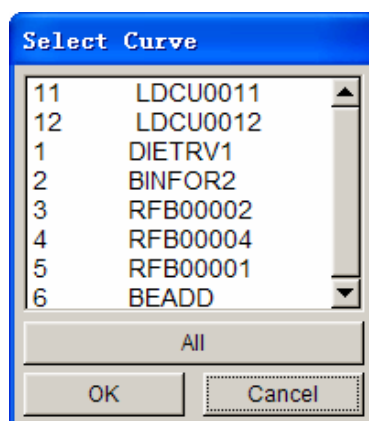

Figure 11.13.3 Select Curve dialog box
- Select a curve listed in the SELECT CURVE dialog box as shown in Figure 11.13.3. The user can select all curves by selecting the ALL button. The user can select several curves by holding down the CTRL or SHIFT key following by clicking on the OK button to confirm the selection.